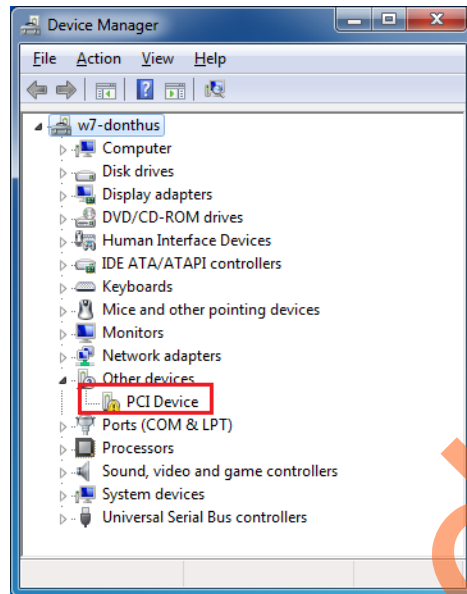
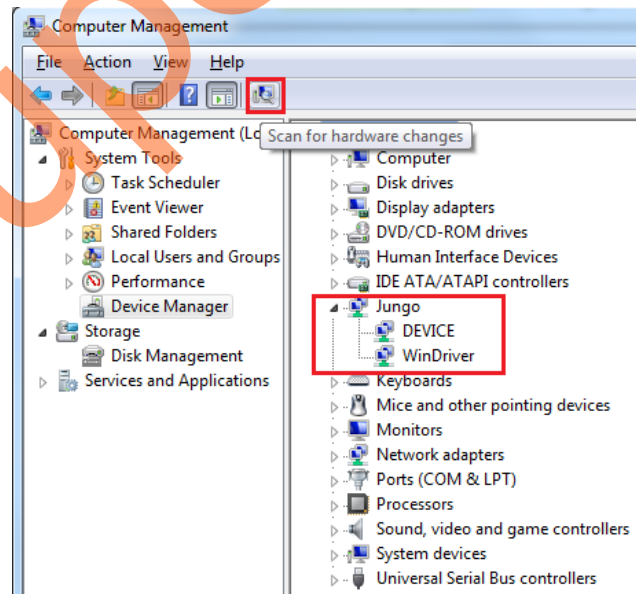

Figure 7 • Device Manager - PCIe Device Detection
Figure 12 • Device Manager - PCIe Device Detection
6. Power on the host PC and check the host PC's **Device Manager** for **PCIe Device**. It will be similar to Figure 7. If the device is not detected, power cycle the SmartFusion2 Development Kit and click "scan for hardware changes" (as shown in Figure 12 on page 17) in **Device Manager**. If the host PC has any other installed drivers (previous versions of Jungo drivers) for the SmartFusion2 PCIe device, uninstall them and make sure that the PCI Device is displayed in the Device Manager window as shown in Figure 7.
1. Check the host PC **Device Manager** for the drivers. It will be similar to Figure 12. If the device is not detected, power cycle the SmartFusion2 Development Kit and click “scan for hardware changes” in **Device Manager**.